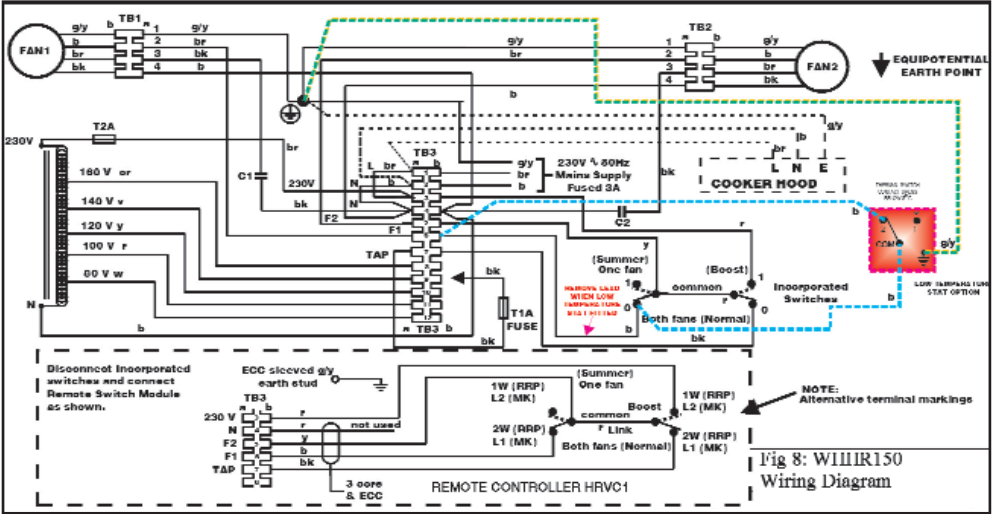

Fig 8: WHHR150
- 4.5.1 If the WHHR is to be loft mounted, a remote fan speed control/summer switch (HRVC1) is required (see section 1.1). This will usually be situated in the kitchen and must be connected to the unit by 3-core and earth (CMA Ref. 6243Y) and 2-core and earth (CMA Ref. 6242Y) 1mm 2 PVC covered cable in accordance with the relevant wiring diagram (Fig. 8 or 9).
Note: The switch terminal markings differ according to manufacturer. Referring to Fig. 8 or 9: